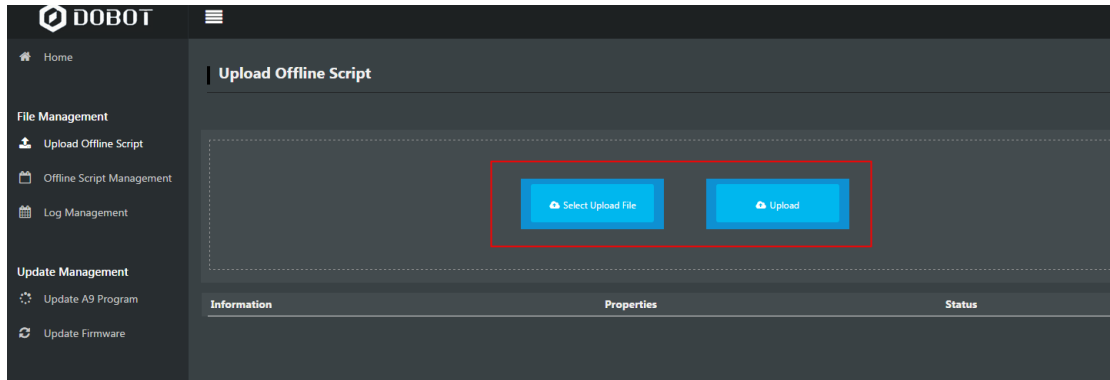

Figure 6.60 Upload script
2. Click **Tools > Web Management > Upload Offline Script** to upload the script to the main controller, as shown in Figure 6.60.